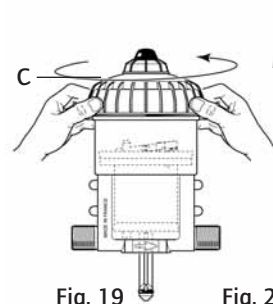

Fig. 19
- Unscrew the screw-top by hand (Fig. 19-C) and remove it.